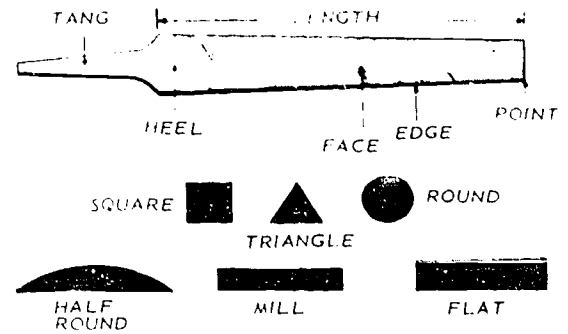

Figure 1-23. Shapes of files.
**Files.** No shop nor individual toolkit is complete without several files. Figure 1-23 illustrates six shapes of files most used by sheet metalworkers, as follows:
- (1) Flat file—used to file flat surfaces and for other fast-cutting operation.
- (2) Mill file—especially adapted for finish filing.
- (3) Triangular, or "three-cornered", file—used in filing internal angles and cleaning out corners.
- (4) Square file—most useful in finishing the bottom of slots.
- (5) Round file (or rattail)—used for enlarging round holes.
- (6) Half-round file—used where other files will not fit.